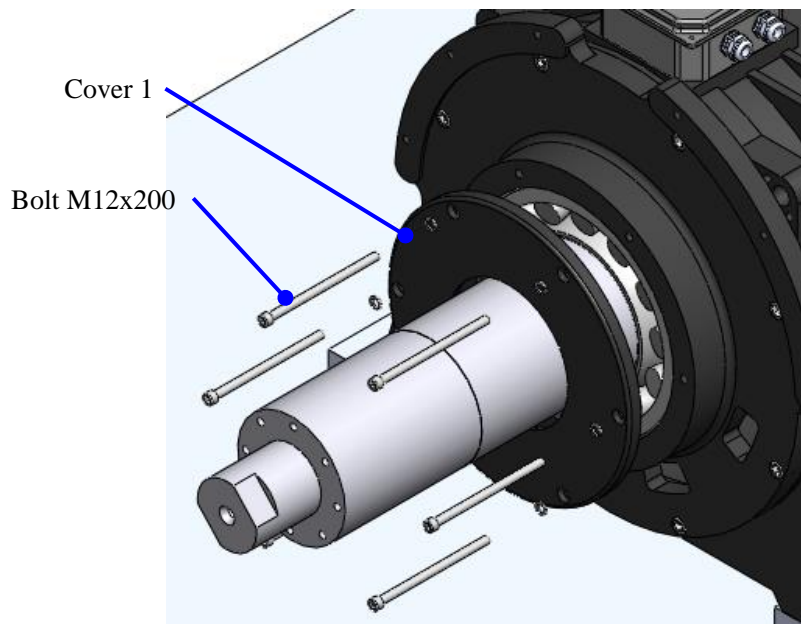

Figure 139: Remove Cover 1
3. Remove the bolts M12x200 (6 pieces) and lock washer¹² with hex wrench (10mm), and take off Cover 1. See Figure 139.